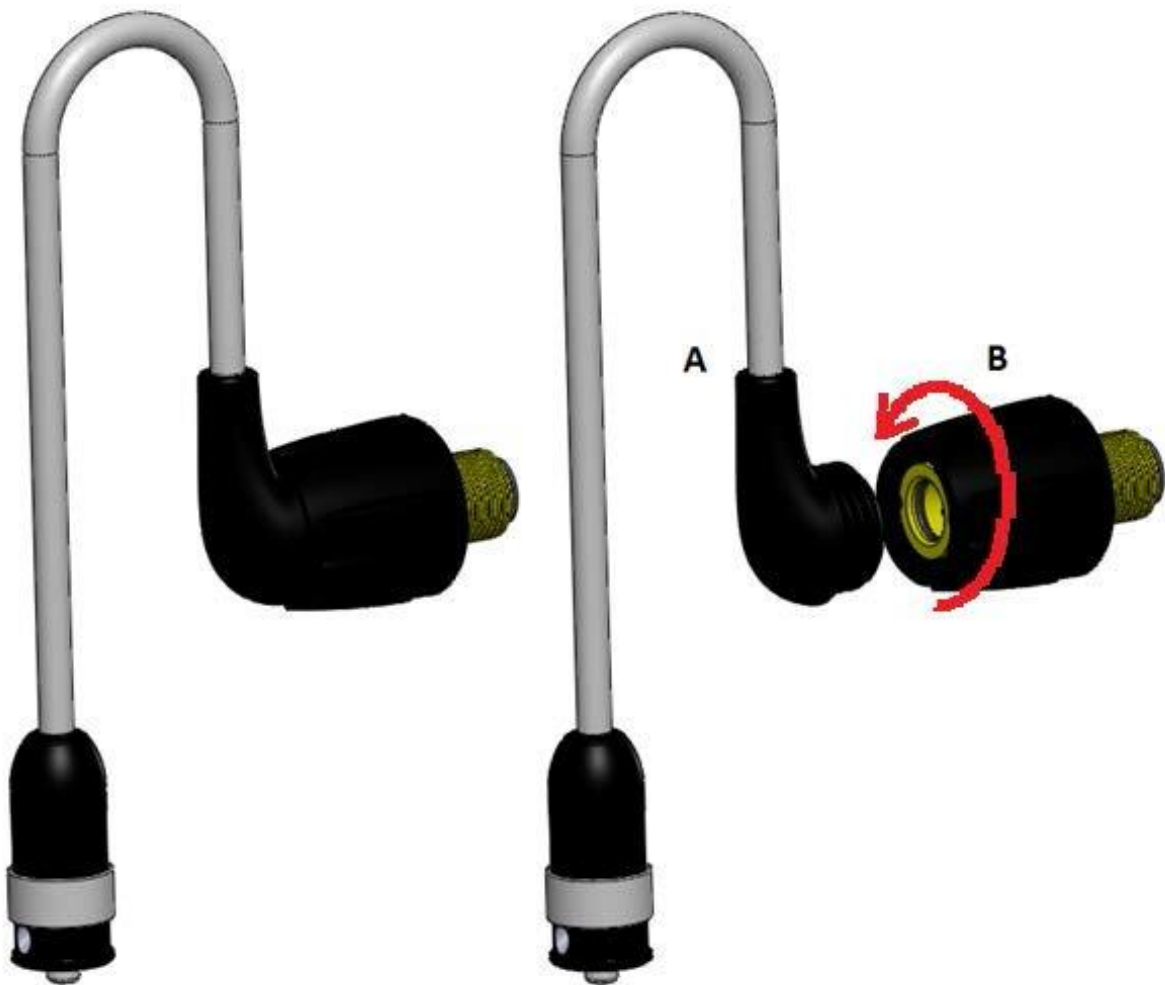

Figure 14
The Nozzle (A) and the Quick Disconnect (B) see Figure 14. To take off the nozzle you turn the black part of B clockwise.